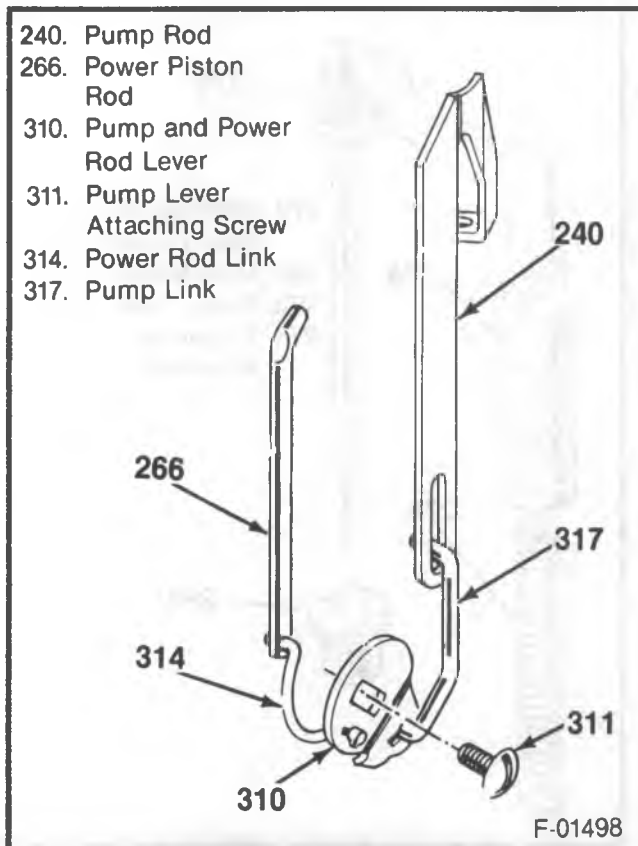

Figure 35 – Pump and Power Piston Linkage
Assemble (Figure 35)
- Pump link (317) and power rod link (314) to pump and power rod lever (310) as shown in Figure 35.